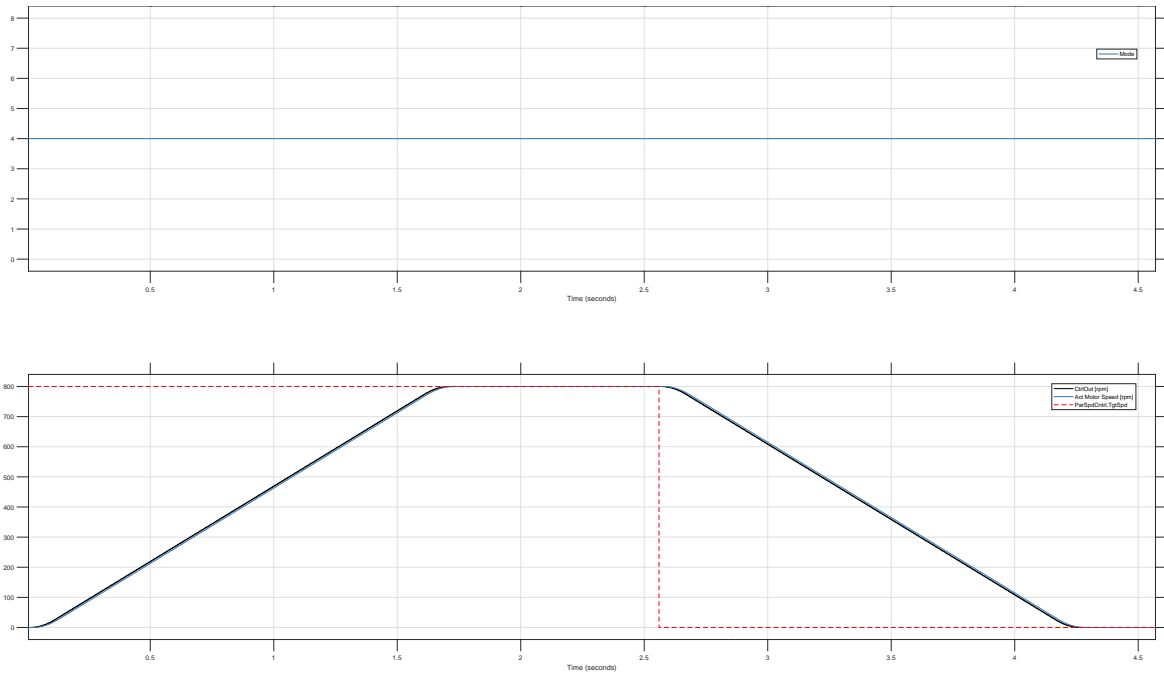

Figure 16: Frequency Drive with optimal set of controller parameters.
5. Optimal set of controller parameters in figure 16: The lag error between set trajectory (black line) and motor actual speed (the blue line) is negligibly small, there is no over shoot and no oscillation. steady- state accuracy is very high.